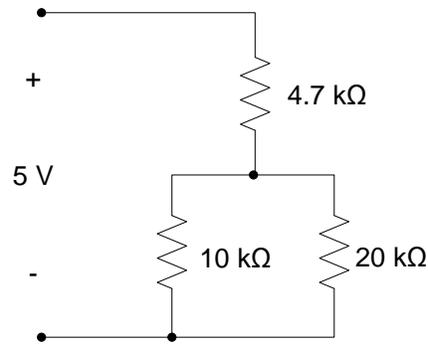

Figure 1. Circuit schematic.
This portion of the lab assignment concerns the circuit shown in Fig. 1 below. A power supply is used to apply the 5V voltage difference. We wish to determine the power dissipated by the 4.7K Ω resistor.
Analyze the circuit of Figure 1 to estimate the power dissipated by the 4.7kΩ resistor.
1. Construct the circuit of Fig. 1. Measure and record the actual resistance values used in your circuit. Measure the parameters (voltages and/or currents) necessary to determine the power dissipated by the 4.7kΩ resistor. Determine the power dissipated by the 4.7kΩ resistor.